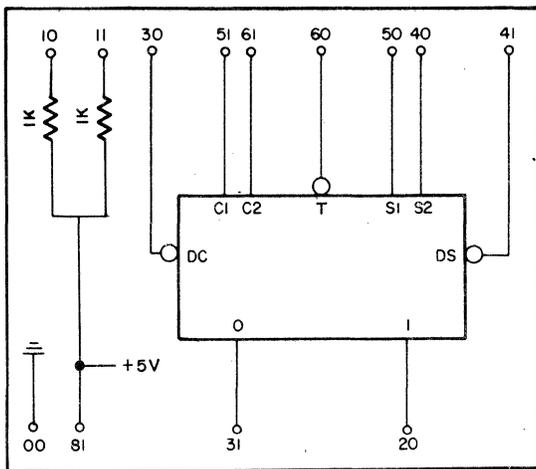

Figure 3-6. 35-157 Clocked Flip-Flop, Logic Diagram
The 35-157 board shown on Figure 3-6, contains one clocked flip-flop operating on the master/slave principle. Information enters a dual input AND master when the input on the toggle (T) is high and then transfers to the slave when the toggle signal goes low. The DS and DC inputs take precedence regardless of master inputs. The 35-157 Clocked Flip-Flop can be converted to a J-K flip-flop by connecting terminals 31 to 50 (or 40) and 20 to 51 (or 61).